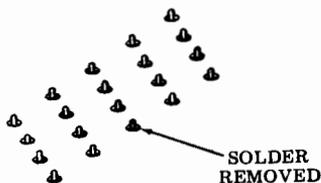

Fig. 19—Connector Pins
- (d) Remove solder from around connector pins of cable to be removed (Fig. 19).
- (b) Remove solder from around connector pins of cable to be removed (Fig. 19).